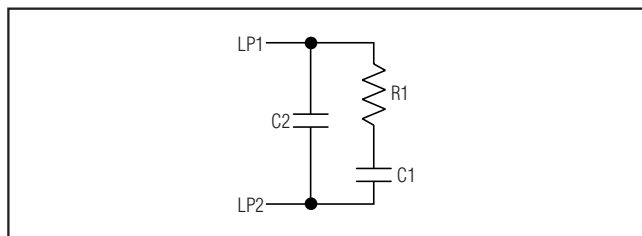

Figure 1. Typical Loop Filter
The MAX9486 features two PLLs: PLL1 and PLL2. The first phased-lock loop, PLL1, contains an integrated VCXO that uses an external crystal to track the input reference signal and attenuate input jitter. Figure 1 shows the external loop filter of the PLL containing resistor R1 and two capacitors, C1 and C2. This loop filter is connected between LP1 and LP2 as shown in the *Typical Operating Circuit*. The loop-filter bandwidth is determined by C1, C2, R1, and  $R_{\text{SET}}$  where  $R_{\text{SET}}$  is used to set the value of the charge-pump current. The typical values of C1, C2, R1, and  $R_{\text{SET}}$  are 22nF, 560pF, 1000kΩ, and 13kΩ, respectively.
where R1 (Ω) is the resistor in the PLL1 loop filter (Figure 1),  $I_{\text{SET1}}$  (A) is the charge-pump current calculated from the equation in the *Charge-Pump Current*
where C1 (F) and R1 (Ω) are the values of the capacitor and the resistor in the PLL1 loop filter shown in Figure 1;  $I_{\text{SET1}}$  is calculated as shown in the *Charge-Pump Current Setting* section and N = 2208.